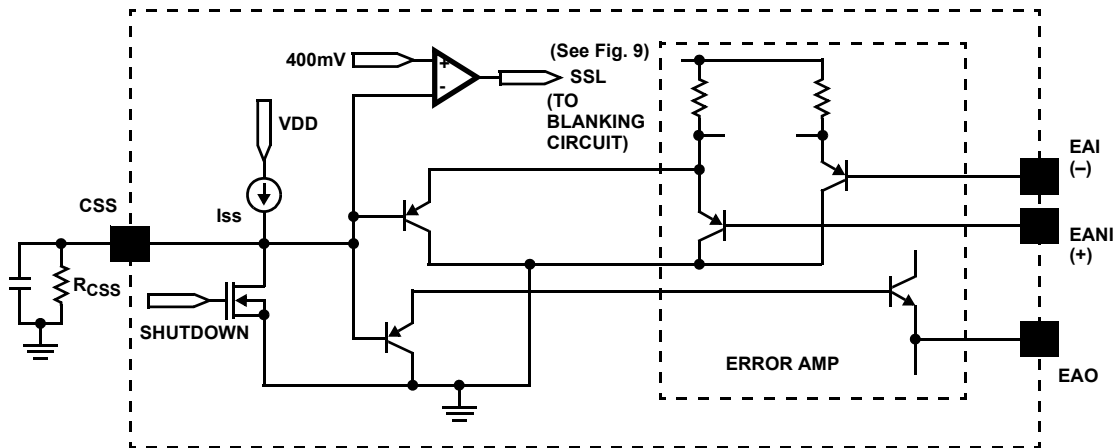

FIGURE 4. SIMPLIFIED CLAMP/SOFT-START
- Both EANI and EAO are clamped by the voltage (Vclamp) set at the CSS pin, as shown in Figure 4. Note that the diodes in the functional block diagram represent the clamp function of the CSS in a simplified way.
- The clamping voltage determines the cycle-by-cycle peak current limiting of the power supply. It should be set above the EANI and EAO voltages and can be programmed by an external resistor as shown in Figure 4 using Equation 3.
incorporated. The current ramp is blanked out during the resonant delay period because no switching occurs in the lower FETs. The leading edge blanking function will not be activated until the soft-start (CSS) reaches over 400mV, as illustrated in Figures 4 and 9. The leading edge blanking (LEB) function can be disabled by tying the R\_LEB pin to VDD, i.e., LEB=1. Never leave the pin floating.